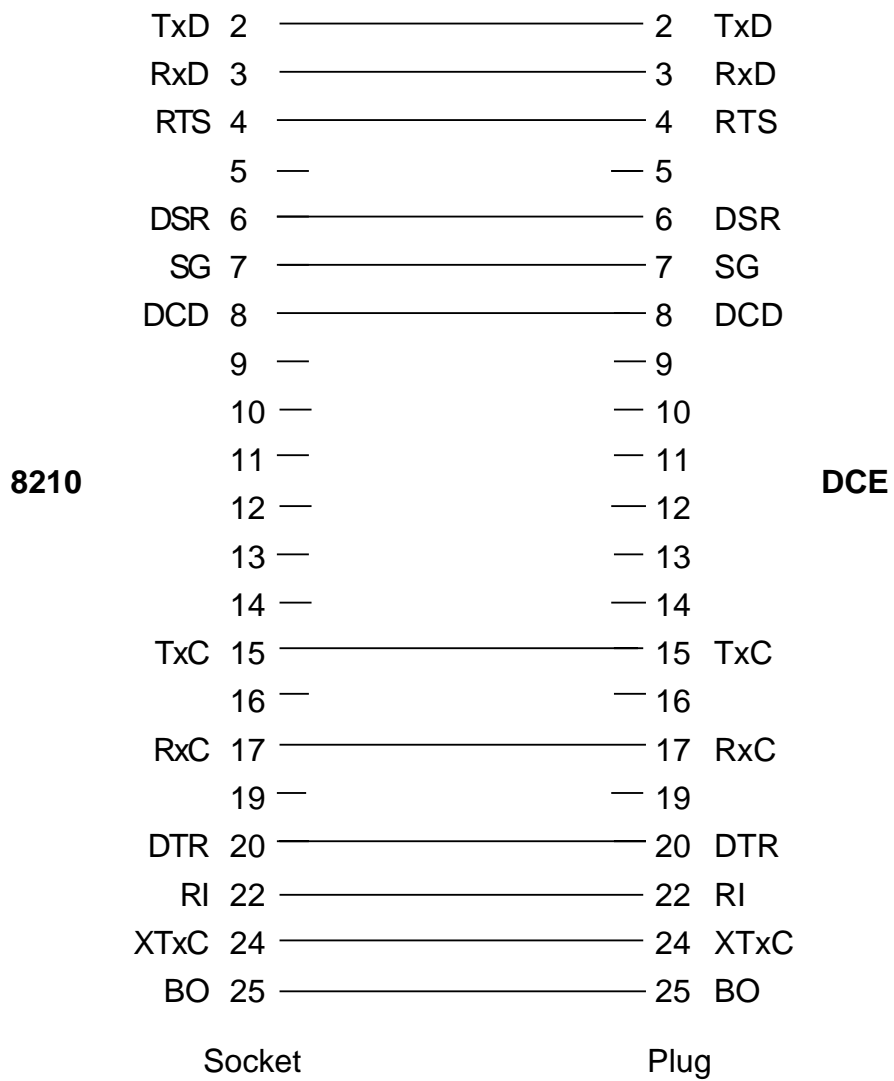

Figure B-5 V.24 Composite Cable
- (5) 8210 Card to V.24 DCE use cable X890-403111, Figure B-5.